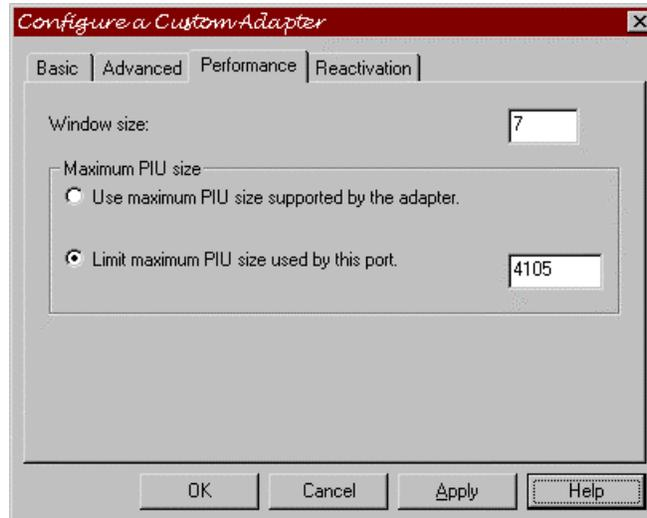

Figure 10-6. Completed Performance Screen
4. After completing the Advanced screen, click the **Performance** tab (Figure 10-6).